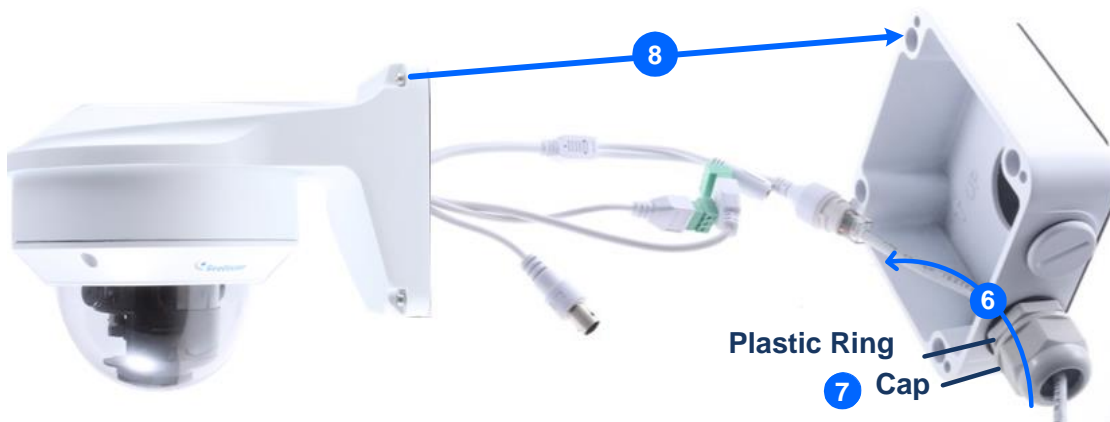

Figure 1-106
6. Thread the Ethernet cable through the PG21 conduit connector and the power box, as shown in No 6, *Figure 1-106* below. Then connect the cable to the camera.
7. Rotate the plastic ring to secure the conduit connector to the power box. Screw in the cap shown in No 7, *Figure 1-106* below.